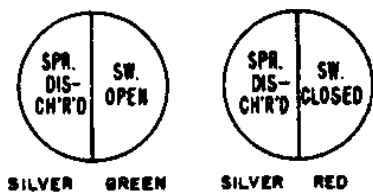
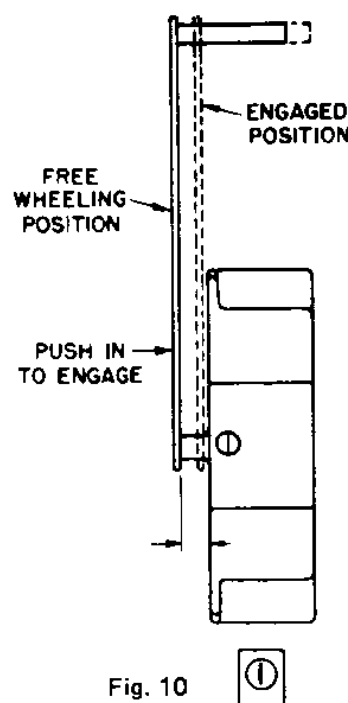

Fig. 1
Fig. 10
1. Check worded and color-coded position indicator (Fig. 1) built into manual handle housing which indicates switch and spring position.
3. With handle arm in free-wheeling position, locate handle arm in proper position for operation. Switch closed, handle arm up as shown in Fig. 10. Switch open handle arm down. Push in handle arm as shown in Fig. 10 to engaged position. While holding handle arm in engaged position, rotate handle arm 180° to operate. After rotating 180° handle arm will return to free-wheeling position. If mechanism is equipped with latch, see paragraph 5.
5. Latched mechanism with or without motor adds two additional switch conditions. (Spring charged to close, switch open and spring charged to open, switch closed. Check worded and color-coded position indicator Fig. 1.) To lock switch open, note spring must be discharged. With switch open spring charged, place handle in up position push in handle arm as shown in Fig. 10 to engaged position. While holding handle arm in engaged position, rotate handle arm 180° to discharge spring.